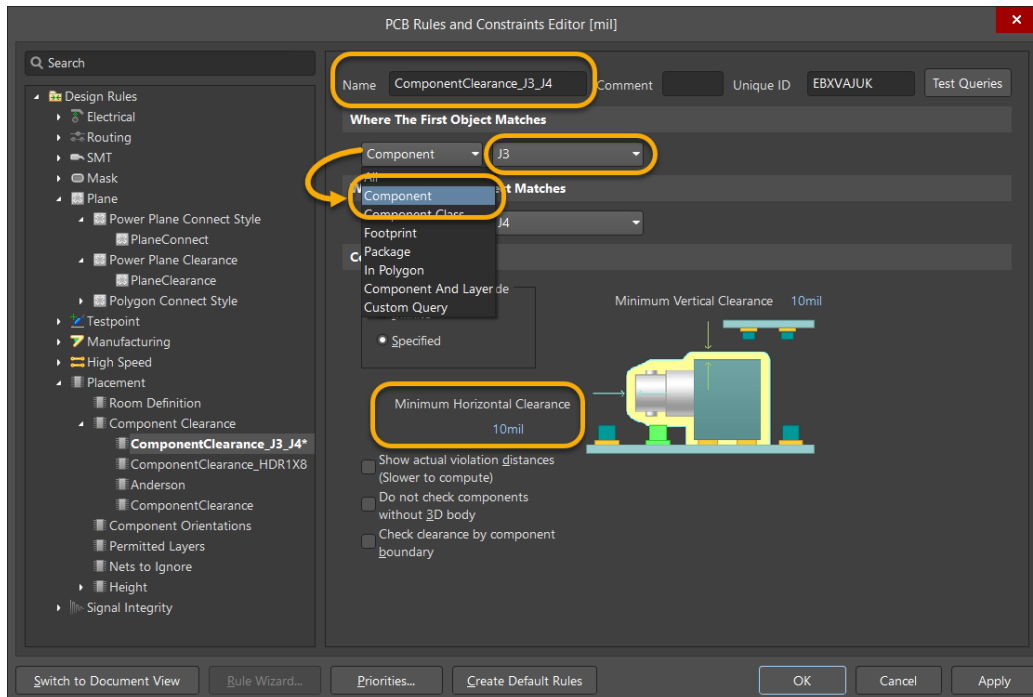

Figure 20. Where The First Object Matches
43. Use Figure 20 as reference to add the information required.